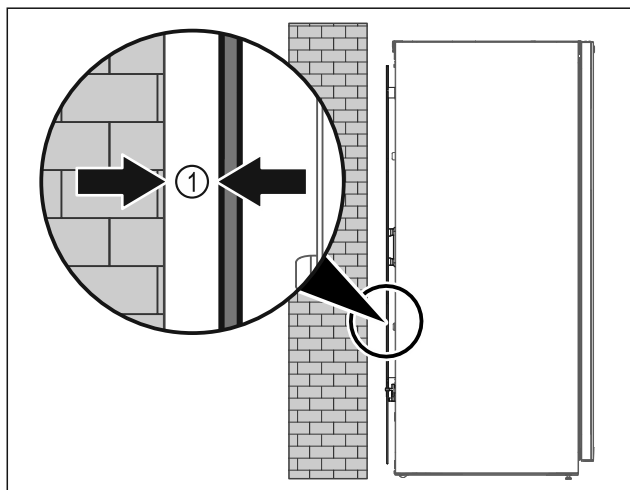

Fig. 49
- Set up the appliance either free-standing or directly against a wall at a minimum distance of 5 mm Fig. 49 (1).